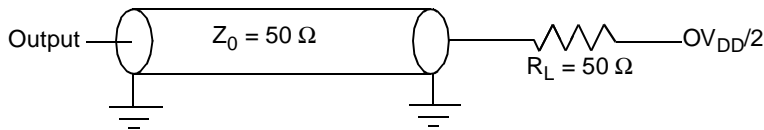

Figure 36. AC Test Load for the JTAG Interface
1. All outputs are measured from the midpoint voltage of the falling/rising edge of t_{TCLK} to the midpoint of the signal in question. The output timings are measured at the pins. All output timings assume a purely resistive 50-Ω load (see Figure 36). Time-of-flight delays must be added for trace lengths, vias, and connectors in the system.
2. The symbols used for timing specifications herein follow the pattern of $t_{(\text{first two letters of functional block})(\text{signal})(\text{state}) (\text{reference})(\text{state})}$ for inputs and $t_{(\text{first two letters of functional block})(\text{reference})(\text{state})(\text{signal})(\text{state})}$ for outputs. For example, t_{JTDVKH} symbolizes JTAG device timing (JT) with respect to the time data input signals (D) reaching the valid state (V) relative to the t_{JTG} clock reference (K) going to the high (H) state or setup time. Also, t_{JTDXKH} symbolizes JTAG timing (JT) with respect to the time data input signals (D) went invalid (X) relative to the t_{JTG} clock reference (K) going to the high (H) state. Note that, in general, the clock reference symbol representation is based on three letters representing the clock of a particular functional. For rise and fall times, the latter convention is used with the appropriate letter: R (rise) or F (fall).
Figure 36 provides the AC test load for TDO and the boundary-scan outputs.